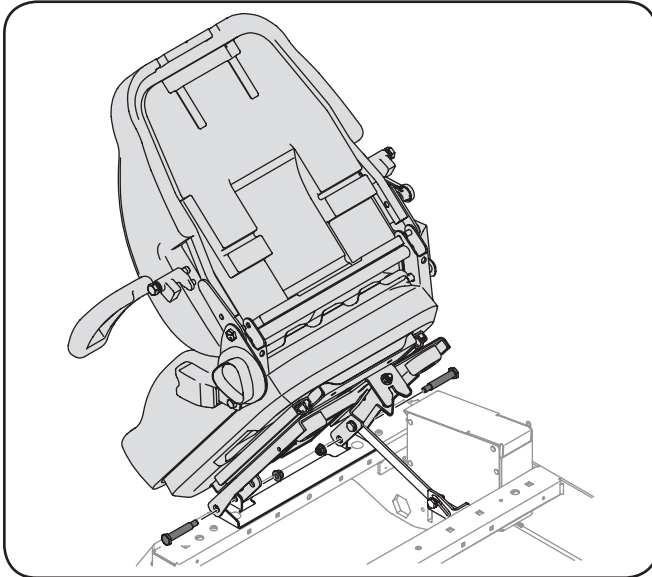

Figure 3-9
1. Remove the two flange lock nuts and shoulder bolts from the manual bag. See Figure 3-9.
2. Place the seat into position and secure the seat into place with the hardware as shown in Figure 3-9.